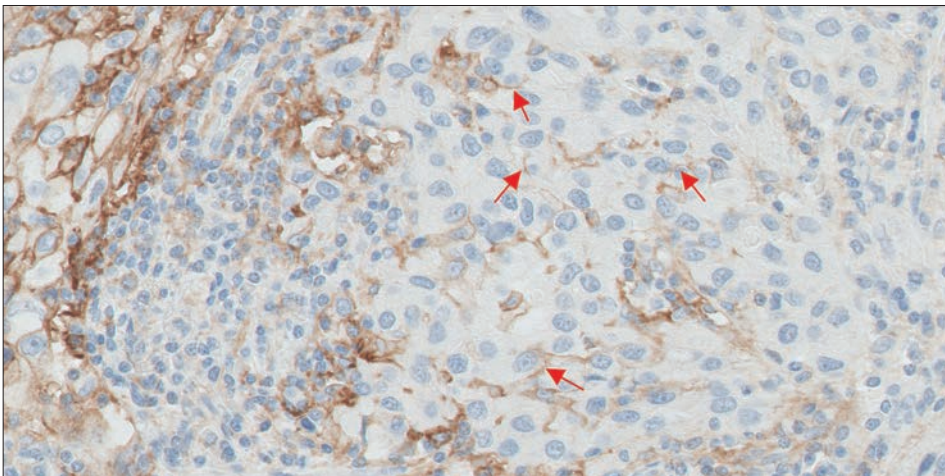

Figure 8. Red arrows show partial linear plasma membrane staining of viable tumor cells.
- 50 out of 100 viable tumor cells are staining PD-L1 positive in the single region of the tumor area (blue circle in Figure 8).